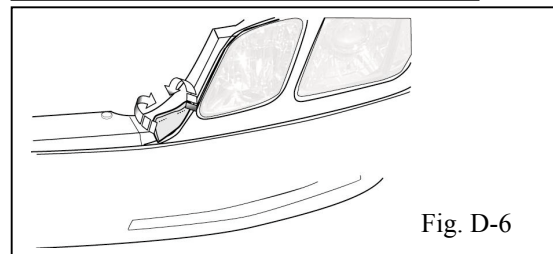

Fig. D-6
- ➔ 5. Attach two (2) plastic clips to the inner flange next to the headlight (Fig. D-6.) Repeat on other side of the vehicle.